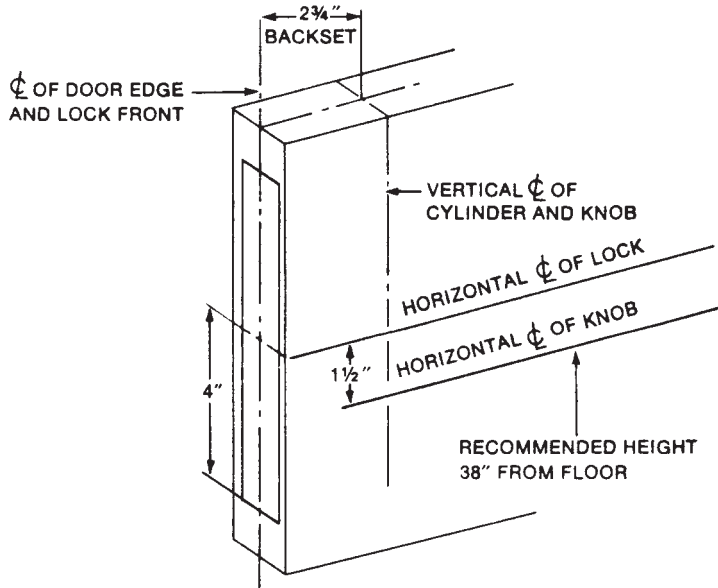

Figure 19.43 Electrified key-in-knob lock installation, Step 1.
- Position the centerline of the template that comes with the lock on the height line, and mark the center point of the door thickness and the center point for the 2 $\frac{1}{8}$ -inch hole through the door (Fig. 19.43).